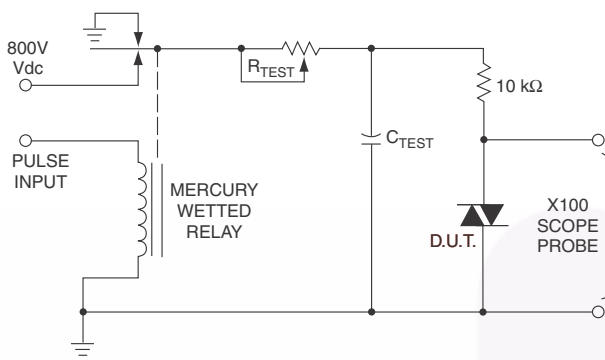

Figure 11. Static dv/dt Test Circuit
- This is static  $dv/dt$ . See Figure 11 for test circuit. Commutating  $dv/dt$  is a function of the load-driving thyristor(s) only.